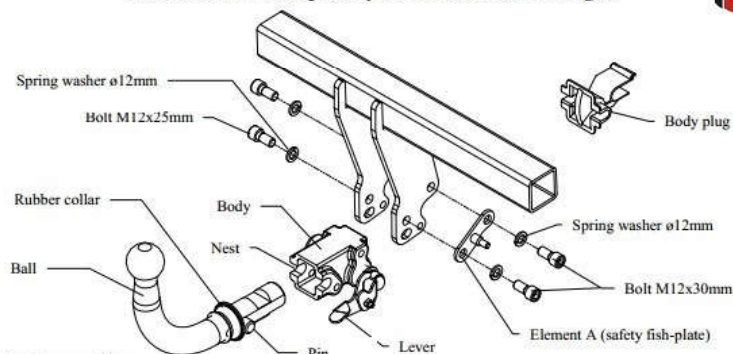

Fig. 1 Mechanism decomposition
2. Push the lever down till resistance and fix element A by two bolts M12x30mm as shown in the figure 1.